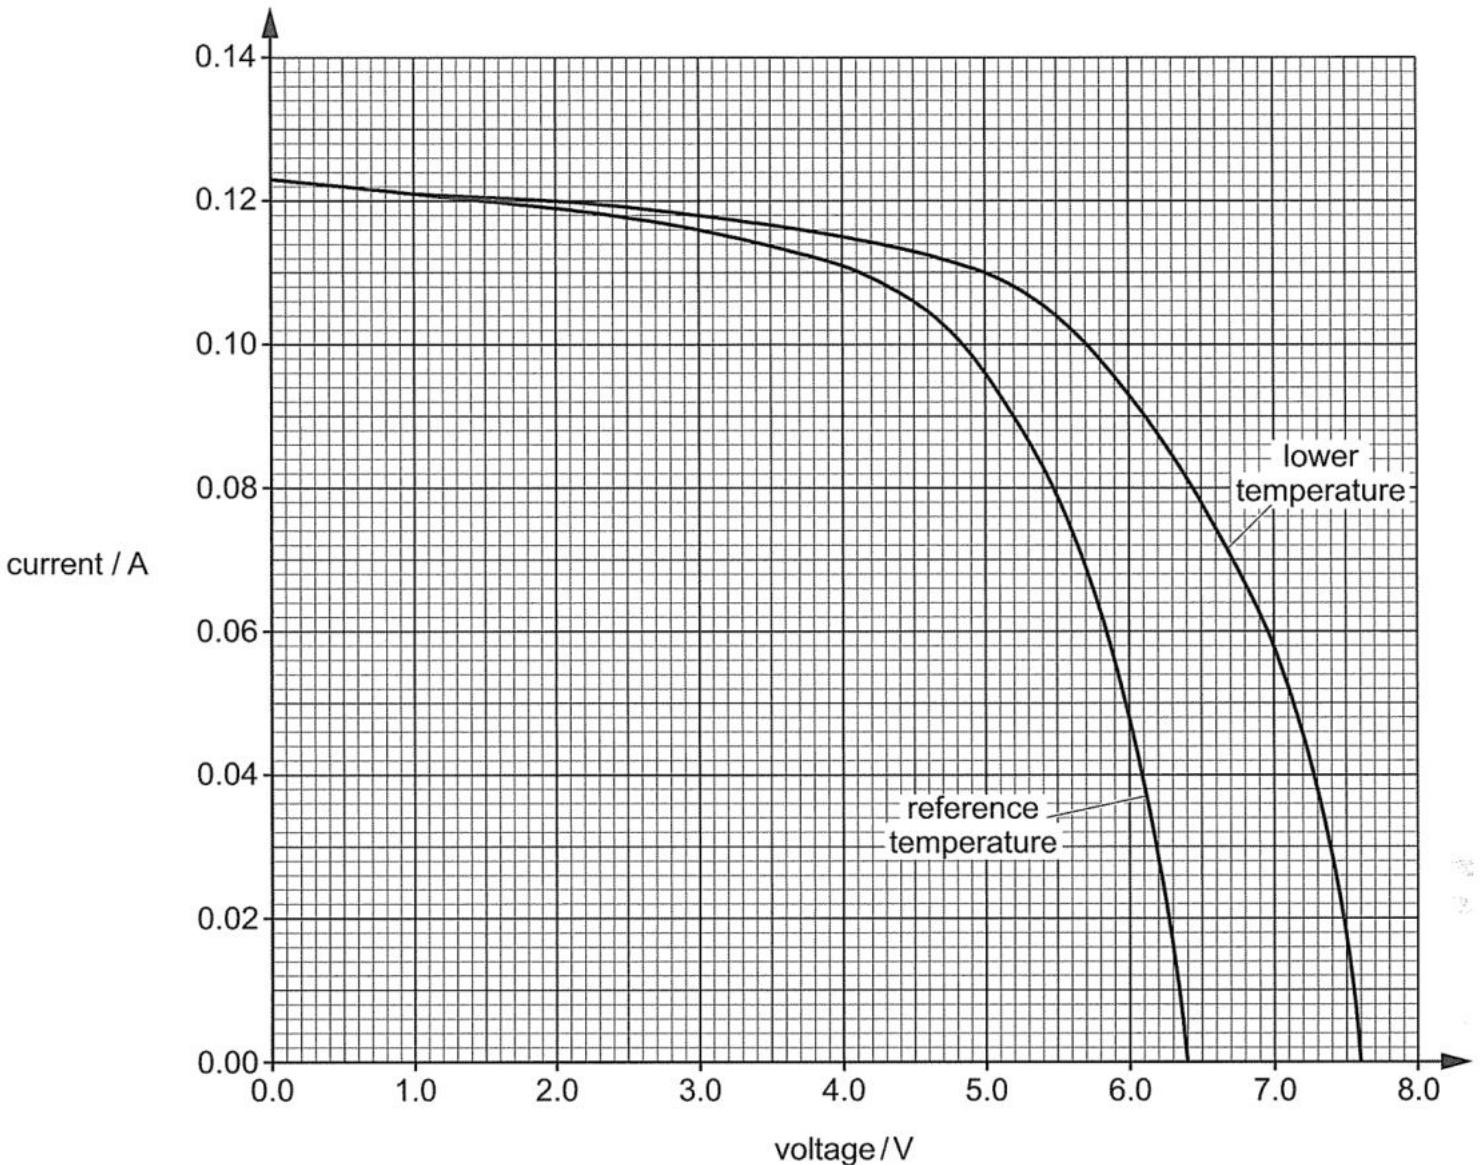

Fig. 8.1
The variation with voltage of current at two different temperatures for one cell of the panel is shown in Fig. 8.1
- (e) (i) Use Fig. 8.1 to state the open circuit voltage (e.m.f.) of the PV cell at both the reference temperature and the lower temperature.
- (ii) Use Fig. 8.1 to describe qualitatively the variation with temperature of the current in the cell.
- (v) Use your answers to (e)(i) and e(iv) to determine the lower temperature used to obtain the data for Fig. 8.1.
On Fig. 8.1, indicate the area which represents the output power of the cell. [1]
- (vii) Use Fig. 8.1 to estimate the maximum power output of the PV cell at the reference temperature.